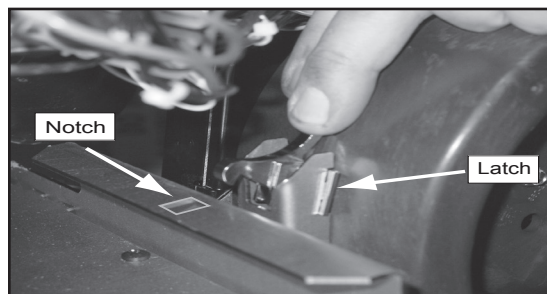

Figure 30.2
5. Reach behind the blower and release the latch by pushing the top of the latch towards the blower. **Figure 30.2.**